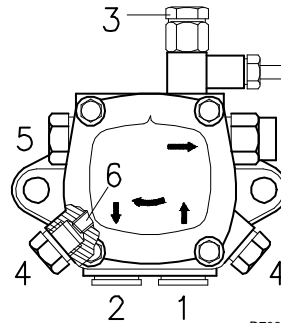

Fig. 21
6.3 Pump (Fig. 21)
- In order for self-priming to take place, one of the screws 3) (Fig. 21) of the pump must be loosened in order to bleed off the air contained in the suction line.
In order to adjust pump pressure, use the relevant screw 5) (Fig. 21 pag. 18)